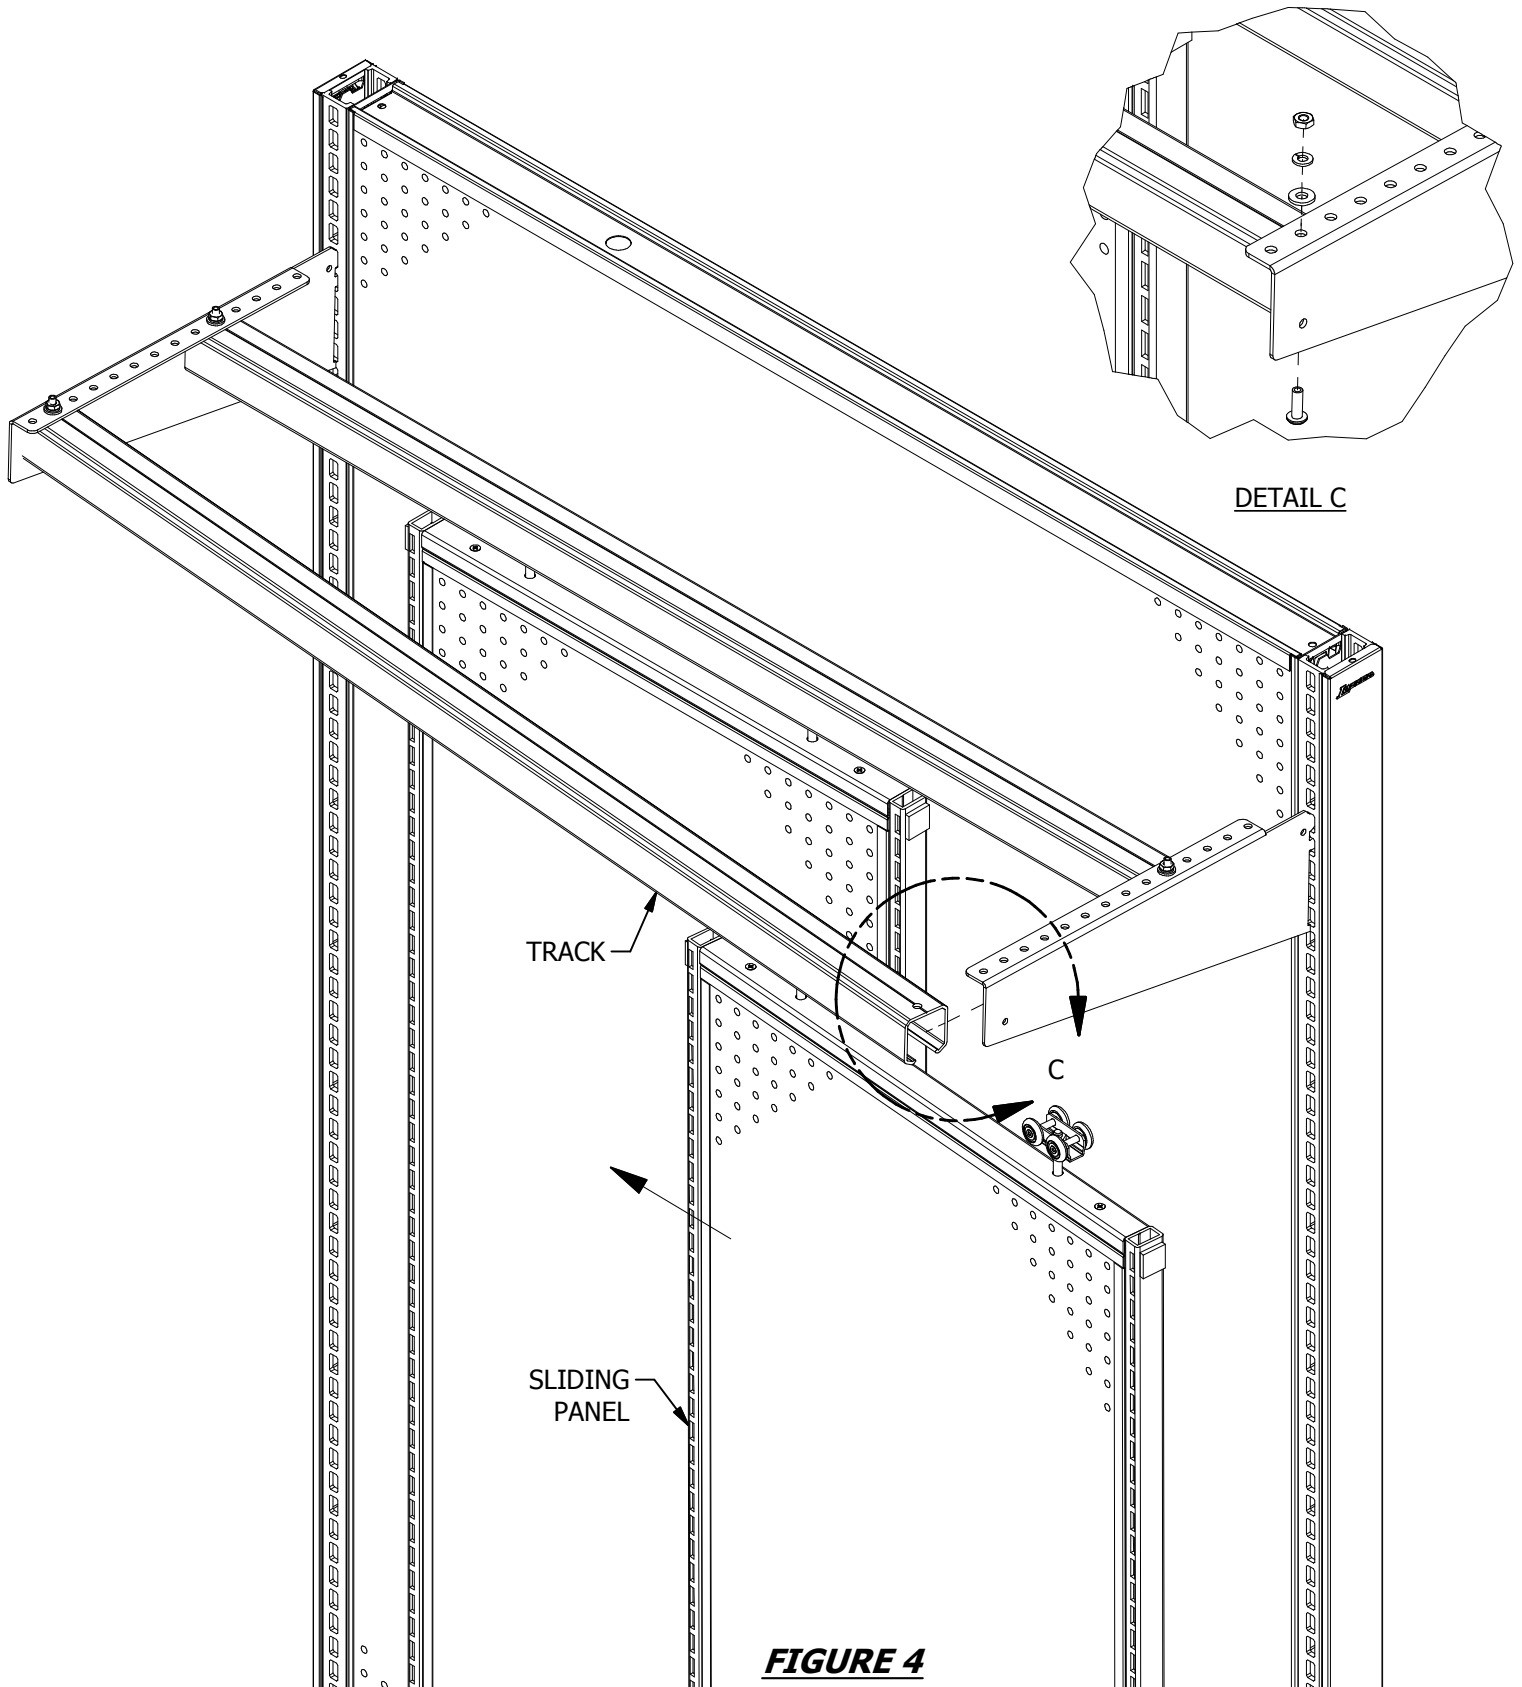

FIGURE 4
STEP 5: Slide panels into tracks and complete track installation as shown in FIGURE 4. Attach remaining end of track per DETAIL C.